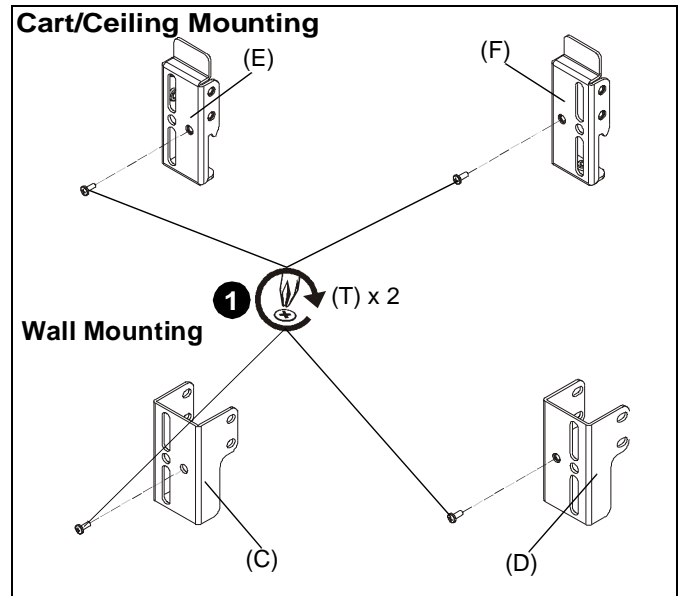

**Figure 17**
4. Install two speaker interfaces (E and F) to speaker bracket (BB) by sliding upper flanges of interfaces into long slots on speaker bracket and then pushing interfaces into position. (See Figure 17)
5. Use two #10-24 x 1 1/8" button head cap screws (W) to secure interfaces to speaker bracket at desired speaker position. (See Figure 17)